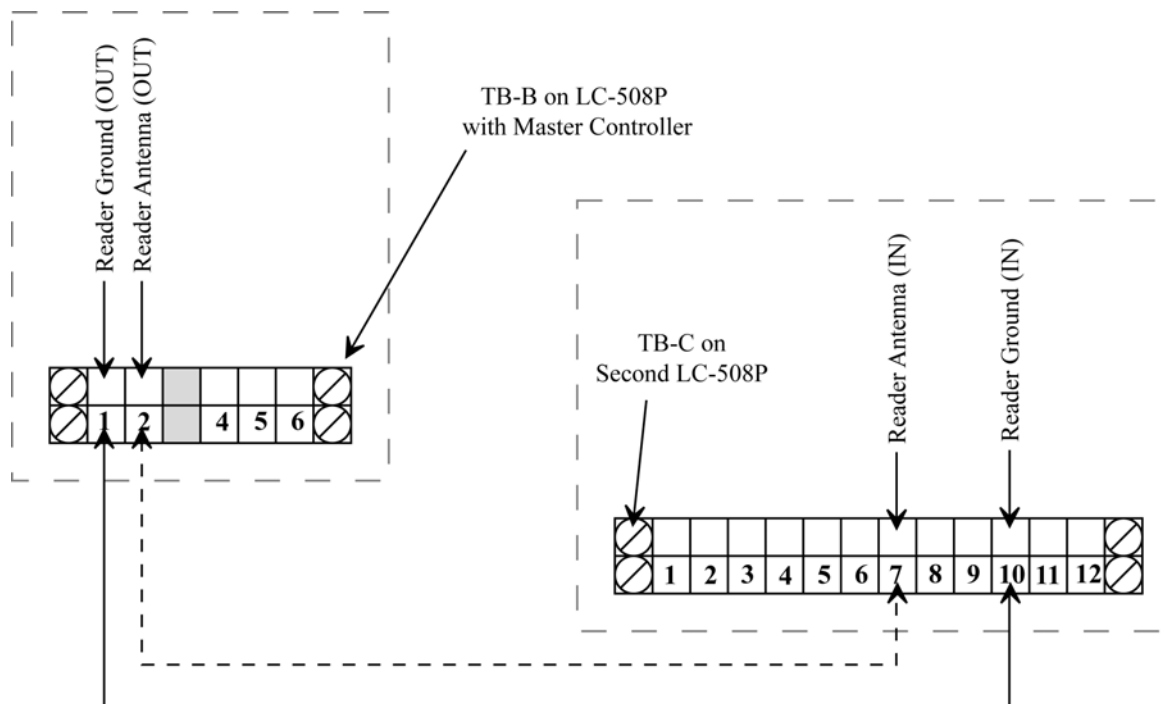

Figure 13: LC-508P to LC-508P Wiring Connections
2. Daisy-chain the Antenna and Ground reader connections from the terminal strip on the first panel to the terminal strip on the second panel. Make the connections per the information in Table 7 and Figure 13.